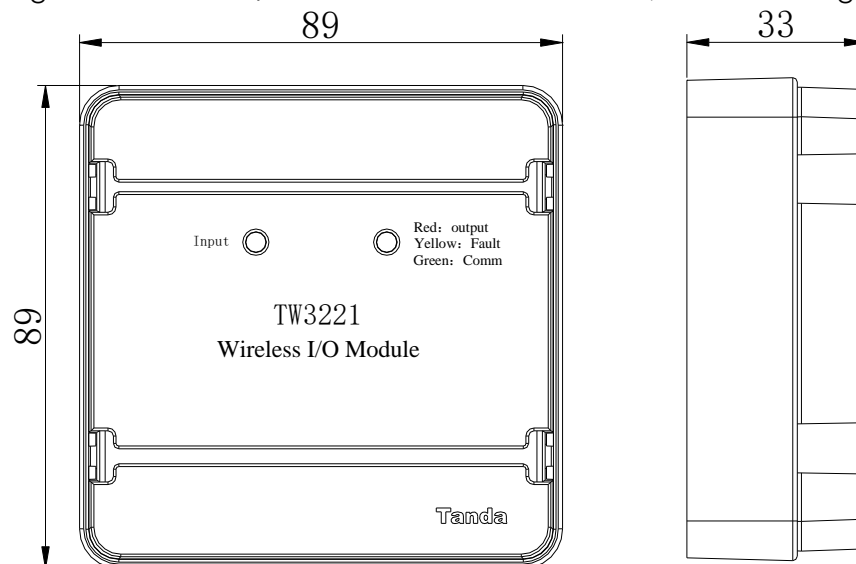

Figure 1: Schematic diagram of wireless input/output module
1. Schematic diagram of wireless I / O module overall dimensions, as shown in Figure 1 (unit: mm)